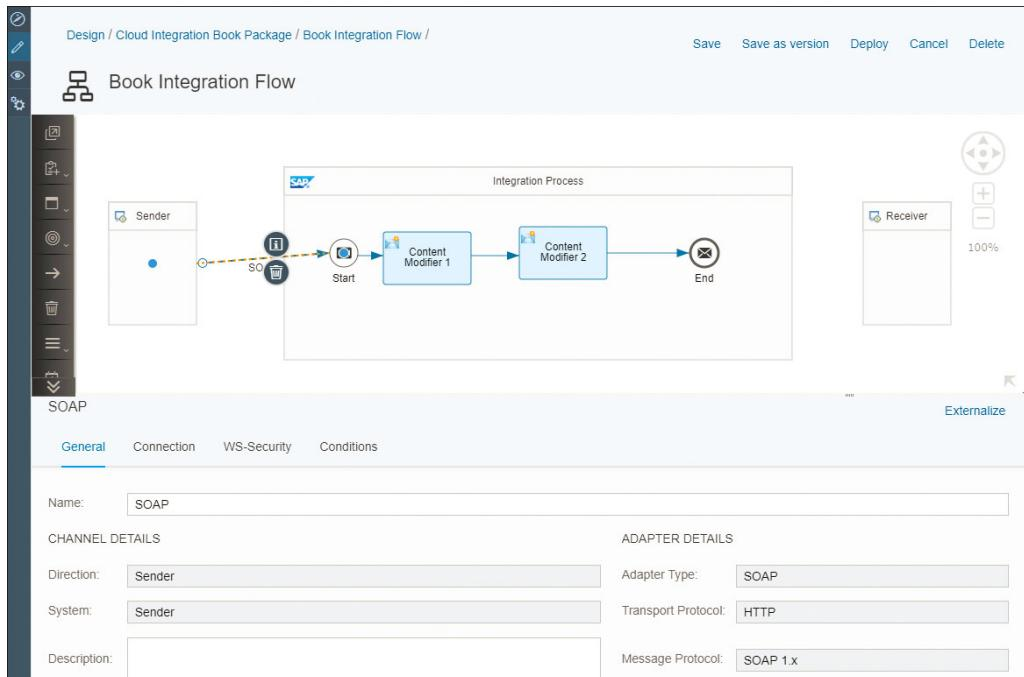

Figure 4.30 Selecting the SOAP Connector and the Externalize button
1. Open the concerned integration flow (in the Web UI design environment), click **Edit**, and select the SOAP adapter line, as shown in Figure 4.30.
2. Click on the **Externalize** button (see right corner of Figure 4.30).